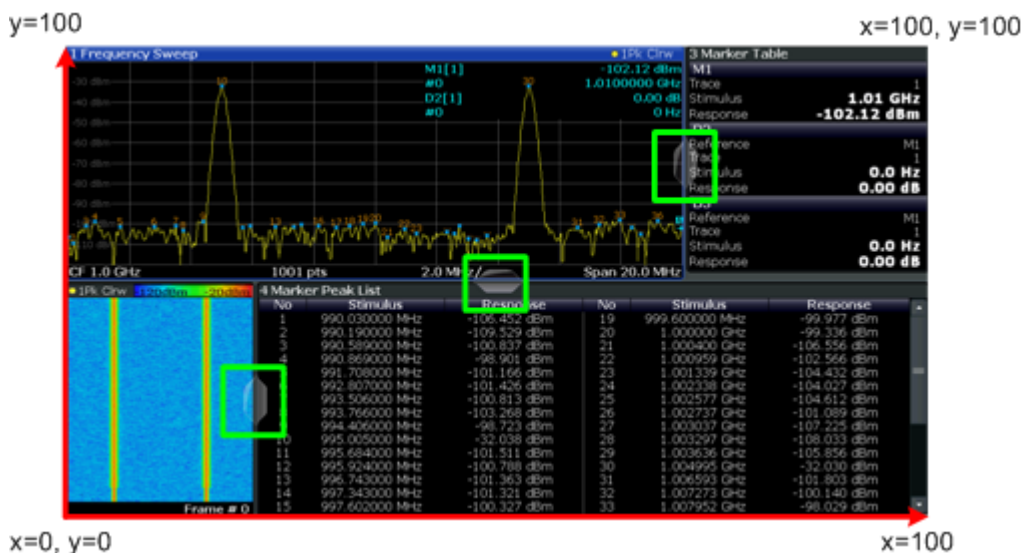

Fig. 8-1: SmartGrid coordinates for remote control of the splitters
- <Position> New vertical or horizontal position of the splitter as a fraction of the screen area (without channel and status bar and softkey menu). The point of origin ($x = 0$, $y = 0$) is in the lower left corner of the screen. The end point ($x = 100$, $y = 100$) is in the upper right corner of the screen. (See figure 8-1.)